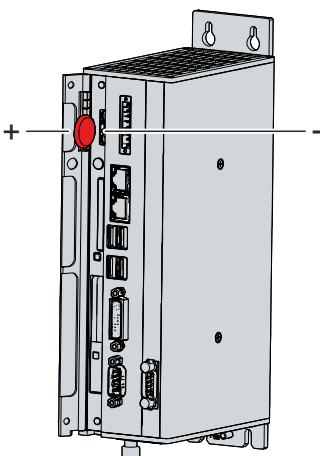

Fig. 24: Battery change
2. Insert the new battery into the PC by hand. Pay attention to the correct polarity. The negative pole of the battery must point towards the voltage socket of the industrial PC (see Fig. 24).